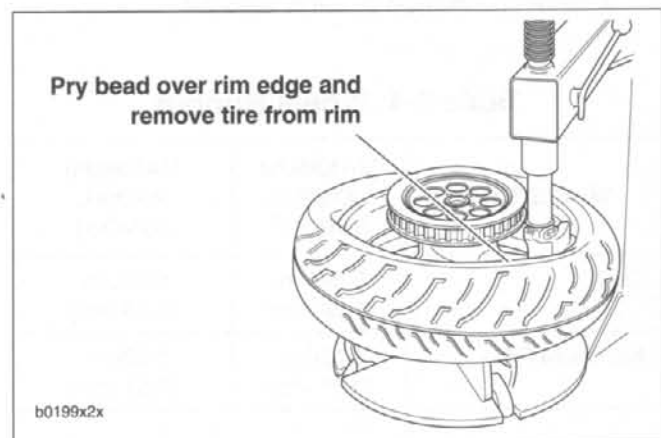

Figure 2-21. Starting Tire Off Rim
5. See Figure 2-21. Push lower bead into rim well on one side and insert tire tool underneath bead from opposite side. Pry bead over rim edge. Remove tire from rim.